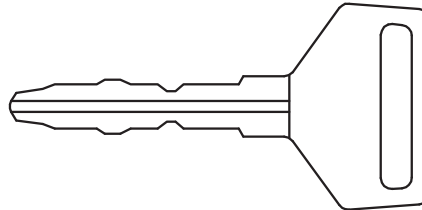

Fig. 17-13
3. Draw the key shown in Fig. 17-13 using the **ARC**, **FILLET**, **LINE** or **PLINE**, **COPY**, and **MIRROR** commands.